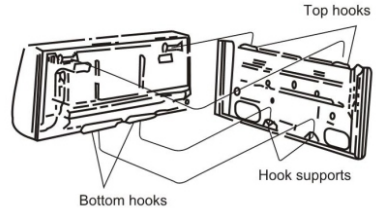
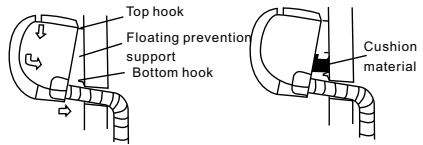

Fig12
Fig13
- Put the upper claw at the back of the indoor unit on the top hook of the installation plate, move the indoor unit from side to side to see that it is securely hooked (see Fig. 12 and Fig 13).